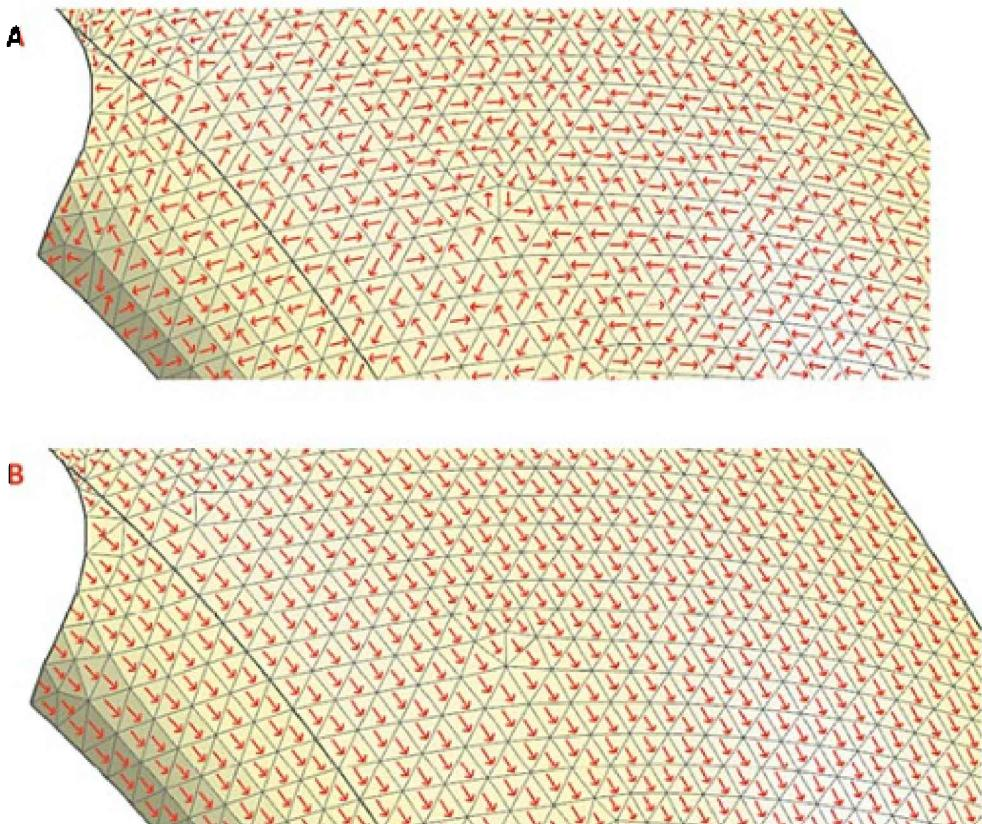

Figure 6.2. Coordinate systems
- The *Element coordinate system* is defined by the location and numbering of the element nodes (Figure 6.2, A).
- The *Material coordinate system* does not depend on the FE mesh. It is used to orient properties of anisotropic and orthotropic materials, for example, composite materials (Figure 6.2, B).